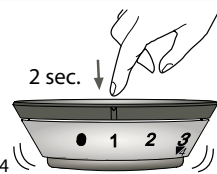
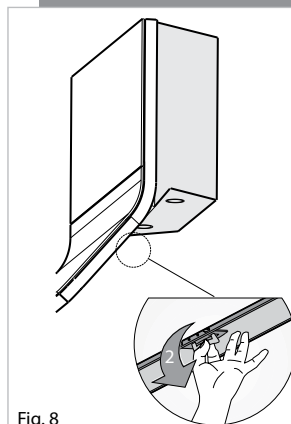
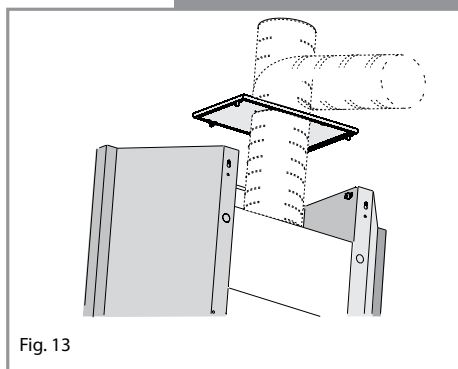

Fig. 4
Fig. 8
Fig. 13
- To select the intensive speed level, press the remote control in for two seconds at positions one, two or three, as shown in figure 4.
Pull open the handle on the grease filter as shown in fig. 8. It will release at the handle side. Then lower the grease filter to remove it completely.
To attach a new charcoal filter, first open the cover panel as shown in figure 8. Then offer up the charcoal filter to the side of the motor as shown in figure 4 and turn it clockwise until it locks into place. Repeat with the other charcoal filter on the other side of the motor. Then close the cover panel.
Before commencing, remove both the grease filters as shown in figure 8 and the top cover (Fig 13).